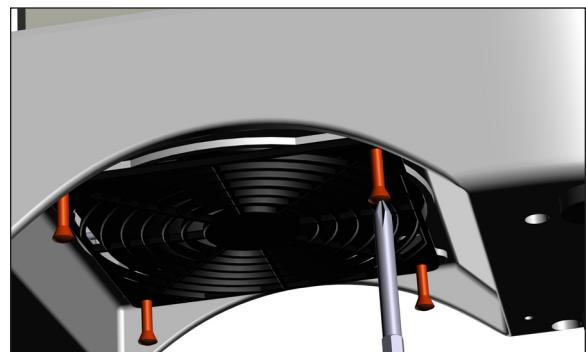

Figure 143 - Step 5 Unscrew four screws
5. Set the unit on its feet with one corner hanging over the edge of a secure work surface. Use the #2 Phillips screwdriver from beneath the unit to remove the four screws and Keps nuts that secure the fan motor and thermoelectric subassembly to the fan guard. Use the slotted screwdriver against a flat side of the Keps nut to hold it stationary while unscrewing the screw (Figure 143).